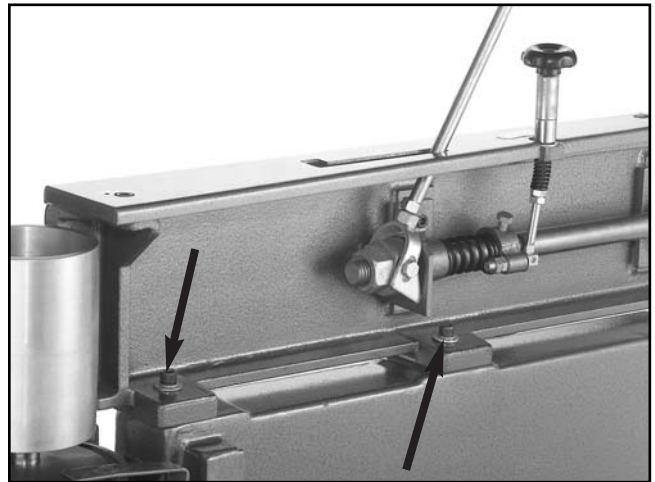

Figure 45. The two cap screws that secure the platen for adjustments.
3. Loosen the two cap screws shown in **Figure 45**.